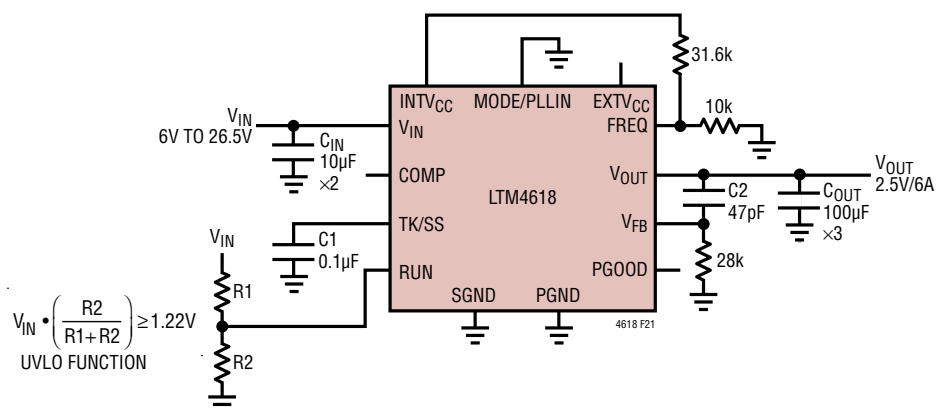

Figure 21. Typical 6V to 26.5V Input, 2.5V at 6A Design, 500kHz Operation
**Table 4. Output Voltage Response vs Component Matrix (Refer to Figure 21) 0A to 3A Load Step**